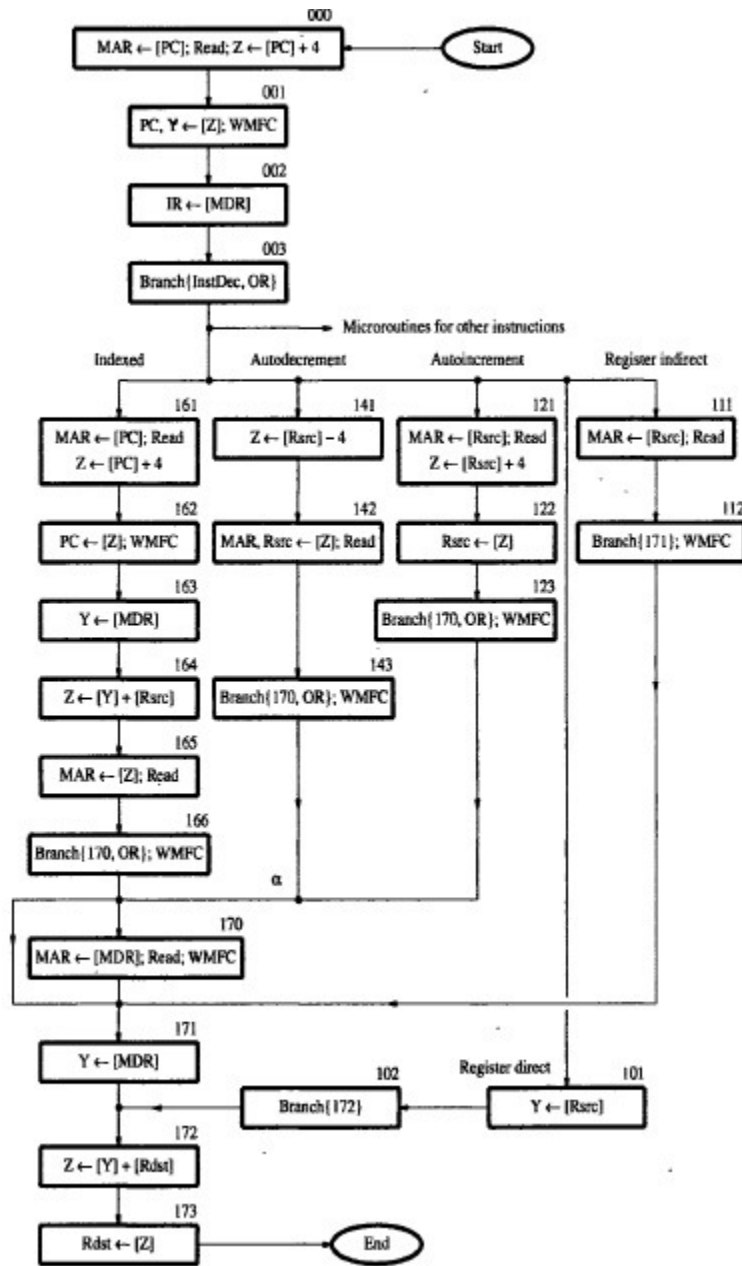

Figure 3.18 Flowchart of a micro program for the ADD SRC, Rdst instruction.
- Let source-operand can be specified in following addressing modes (Figure 3.18):